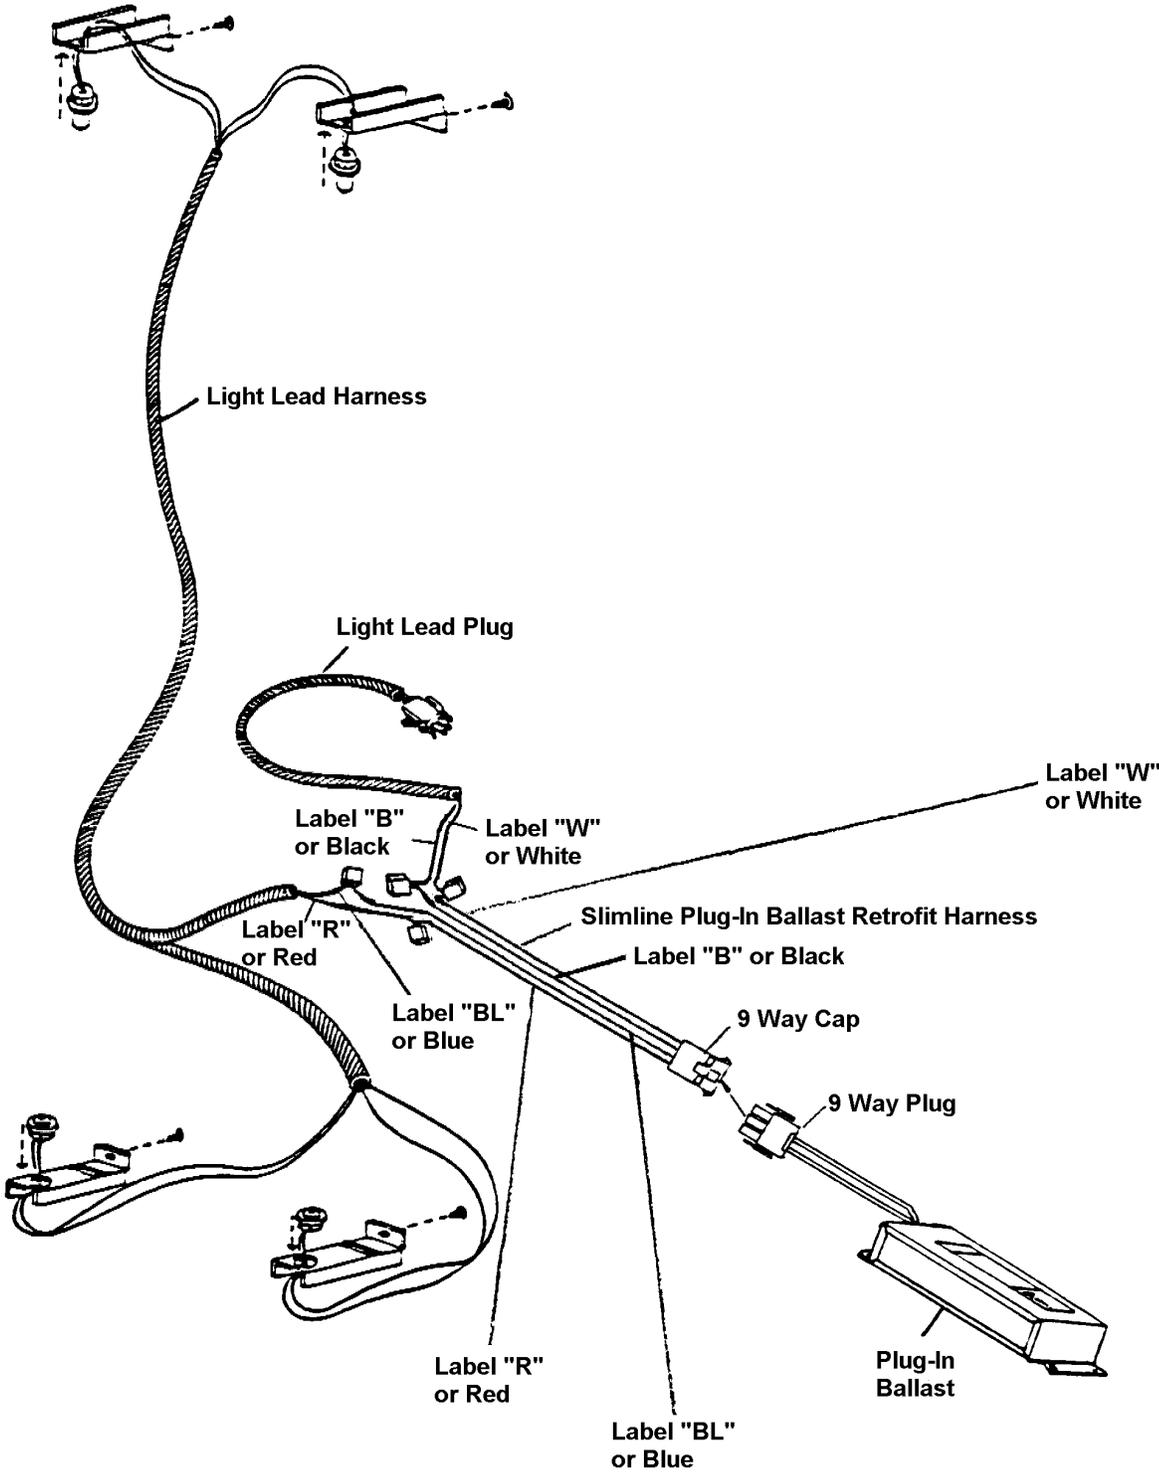

Figure 2
- A. Connect the wire of the light lead harness labeled "BL" (blue) to the wire of the Retrofit Harness labeled "BL" using a scotchlok connector. Tape the scotchlok connector with electrical tape, ensuring that the entire connector is completely covered. (See figure 2, page 4.)
- B. Connect the wire of the light lead harness labeled "R" (red) to the wire of the Retrofit Harness labeled "R" using a scotchlok connector. Tape the scotchlok connector with electrical tape, ensuring that the entire connector is completely covered. (See figure 2, page 4.)
- C. Connect the wire of the light lead plug labeled "B" (black) to the wire of the Retrofit Harness labeled "B" using a scotchlok connector. Tape the scotchlok connector with electrical tape, ensuring that the entire connector is completely covered. (See figure 2, page 4.)
- D. Connect the wire of the light lead plug labeled "W" (white) to the wire of the Retrofit Harness labeled "W" using a scotchlok connector. Tape the scotchlok connector with electrical tape, ensuring that the entire connector is completely covered. (See figure 2, page 4.)